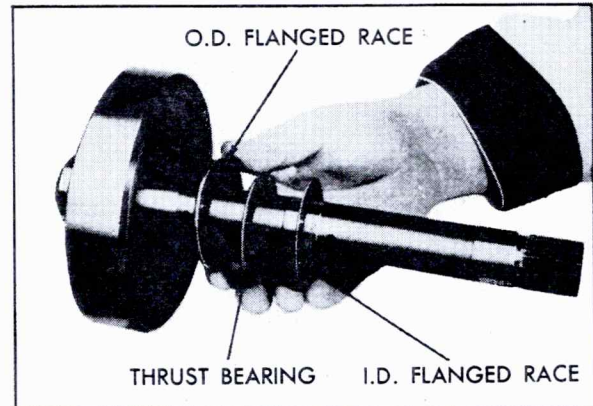

Fig. 7-182 Installing Races and Thrust Bearing on Inner Face of Rear Internal Gear
1. Install large diameter race first, with flange facing up, Fig. 7-182.